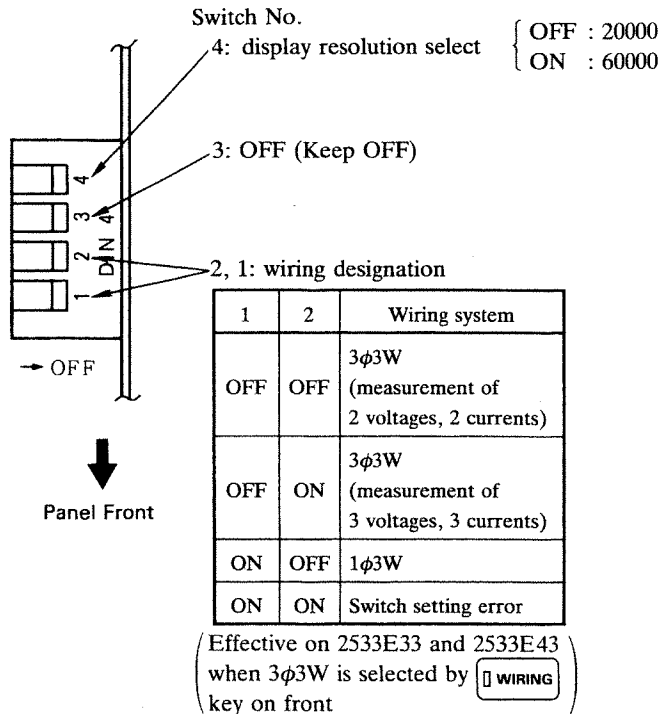

Figure 2-35.
- (4) Referring to Figure 2-35, set the DIP switches as desired. Do not tamper with other parts to avoid a malfunction.